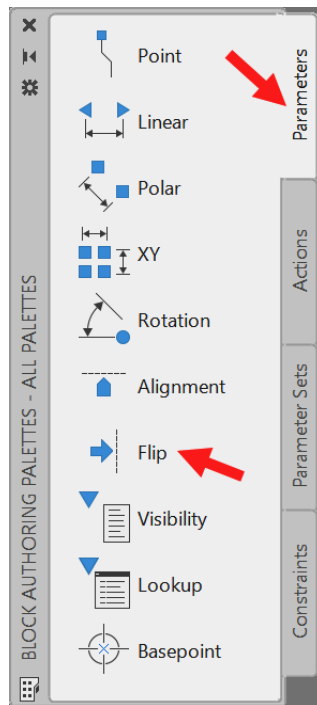

Figure 11.10: The Parameters tab on Block Authoring Palettes
3. Return to the **Parameters** tab and then select the **Flip** parameter, as arrowed in *Figure 11.10*.